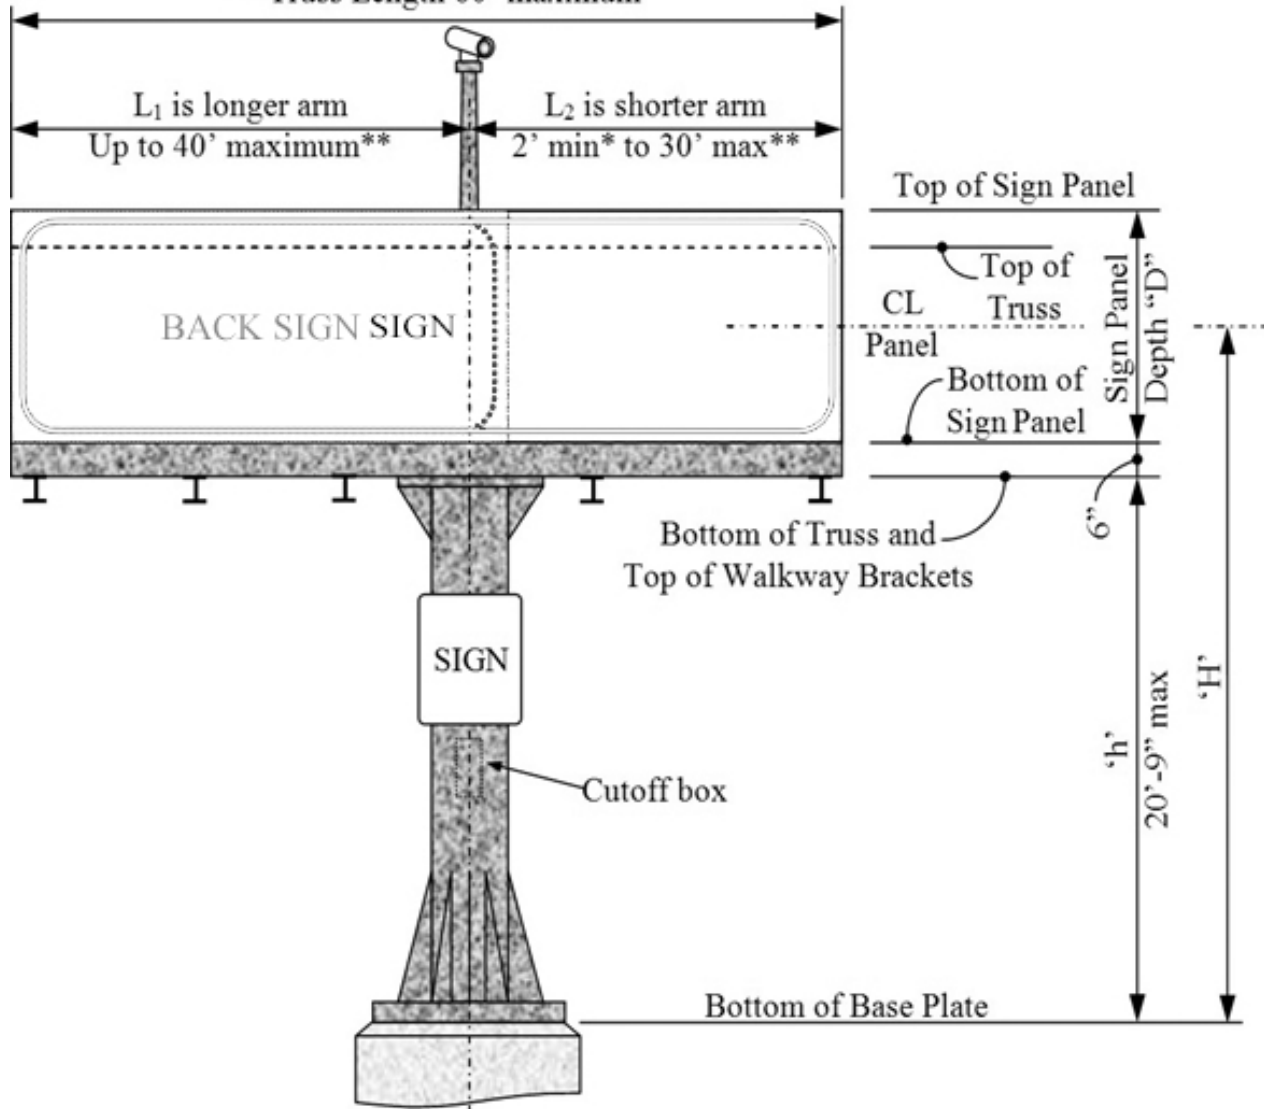

Figure 1: Explanation of dimensions
Method 1 uses charts (Figure 1 through Figure 6). Procedure is as follows.
- Determine the basic dimensions (see Figure 1)
- For diagram explaining dimensions, see Figure 1.